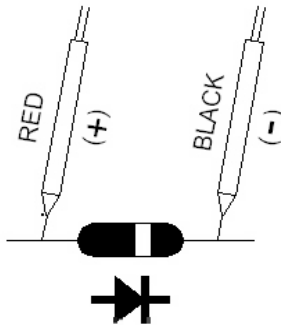

Fig. 2
- 4)a. When connected with polarity as shown in Fig. 2, a forward current flow is established and the approx. Diode Forward Voltage (VF) value in volt will appears on the display reading. If the diode under test is defective, ".000 " or near ".000 " value (short circuit) or " oL " (open circuit) will be displayed.